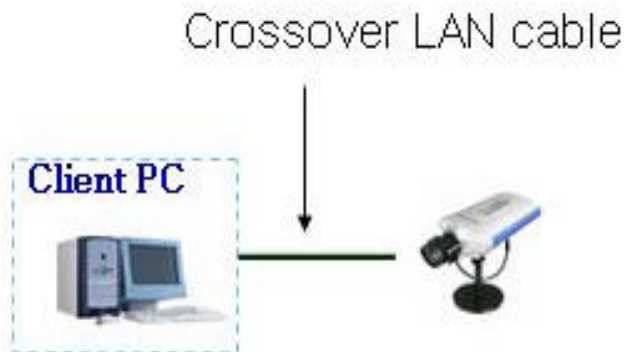

Figure 2-1 Connecting NVC and PC by cross type LAN Cable
The setup in this guide utilizes cross-over cable connection between the NVC units and installation computer as shown in figure 2-1 for easy installation and demonstration of basic feature sets. The NVC supports network configurations including LAN, ADSL modem, and cable modem including IP sharing devices. Use normal Ethernet cables in most cases unless connecting directly between installation pc and NVC.
- ? Apply power to the NVC product and connect it to the installation PC with the cross-over LAN cable as shown in Figure 2-1.